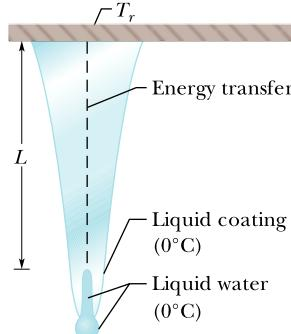

Figure 18.32 Problem 78.
- 78 CALC GO FCP** **Icicles.** Liquid water coats an active (growing) icicle and extends up a short, narrow tube along the central axis (Fig. 18.32). Because the water–ice interface must have a temperature of  $0^\circ\text{C}$ , the water in the tube cannot lose energy